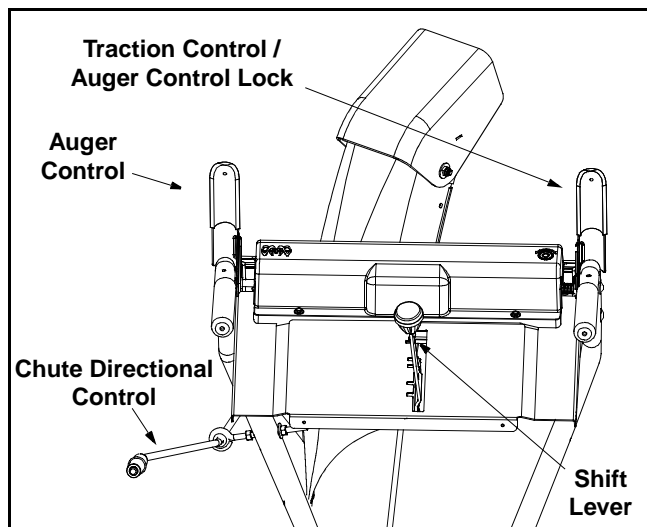

Figure 6
- Push forward on the auger control (Refer to Figure 6) until the small rubber bumper contacts the upper handle. There should be slack in the cable.
- Move the shift lever into sixth (6) position.
- a. With the traction control (refer to Figure 6 in Section 4 of this manual) released, gently push the snow thrower forward, then pull it back. Disregarding the overall weight of the snow thrower, the machine should otherwise move freely.